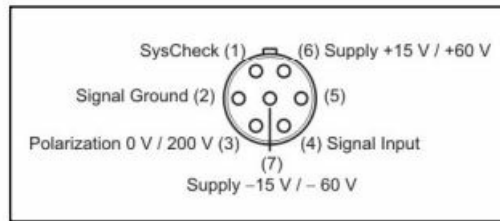

Fig. 2.3 7-pin LEMO female socket 1B (external view)
- When activated, the polarization voltage for this channel is set to 0 V. When cancelled, it reverts to 200 V. The polarization voltage is applied to pin 3 (Fig. 2.3).
- When activated, the supply voltage to the preamplifier of this channel is set to ± 15 V. When cancelled, it reverts to ± 60 V. The preamplifier voltage is applied across pins 6 and 7 (Fig. 2.3).
- When activated, a SysCheck * signal of 1000 Hz is applied to pin 1 (Fig. 2.3) of the Mic Input socket. When cancelled, the SysCheck signal is removed.
- Use a small screwdriver to adjust the level of the SysCheck signal applied to pin 1 (see Fig. 2.3) of this Mic. Input socket. Signal adjustment ranges from 0 to 5.6 V RMS.
- 7-pin LEMO input connector for microphone preamplifier. Wiring diagram shown in Fig. 2.3.
- Applies to the Mic Input sockets (7-pin LEMO) on the rear panel. The polarization voltage is applied to pin 3 (Fig. 2.3).